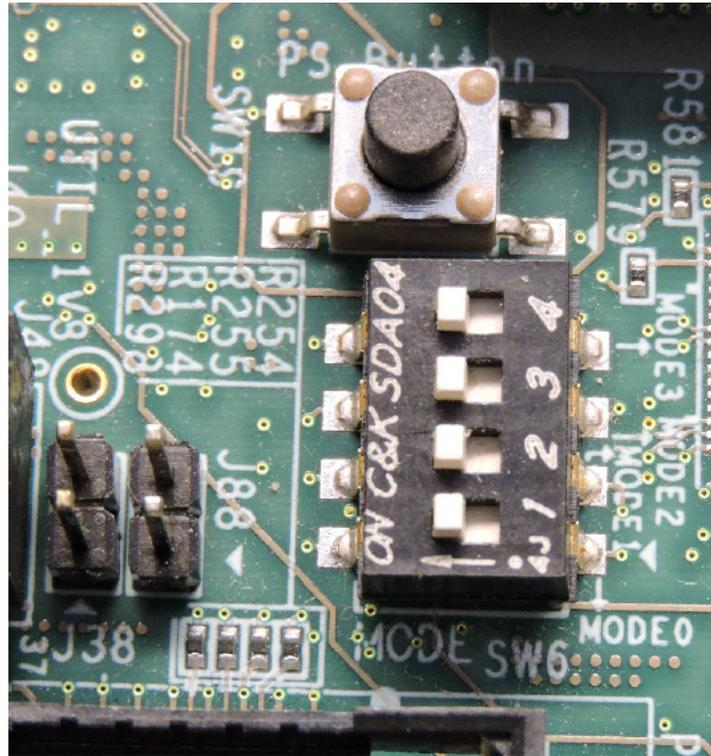

Figure 7: ZCU102 JTAG Boot Mode Switch
10. On the **ZCU102** development board, set the dip switch **SW6** to configure the board for **JTAG** boot mode as shown in Figure 7.